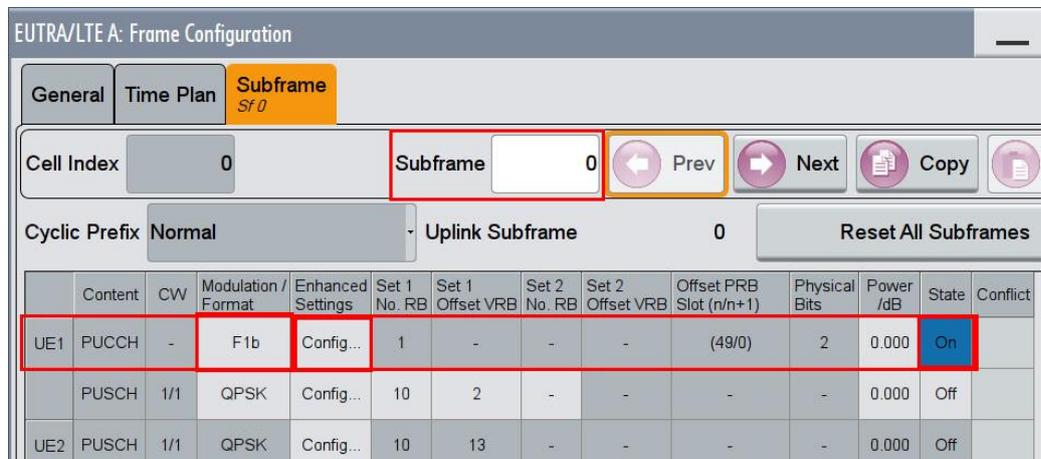

Fig. 3-115: PUCCH with format F1b in subframe 0
6. Set for the PUCCH the Format to **F1b** and the state **On** (Fig. 3-115)